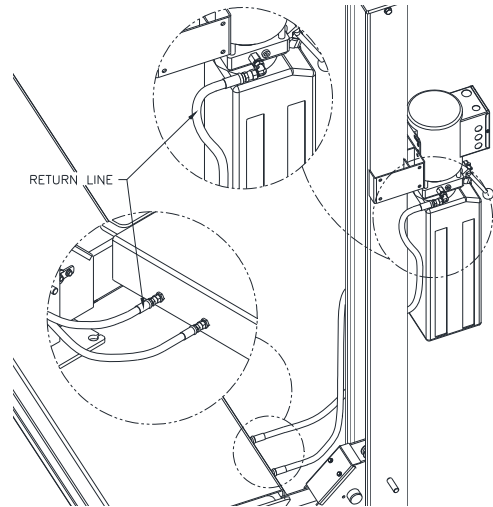

Fig 19 – Return Line, Side
- 35) Remove the 3/8-18 NPT plug on the side of the power unit and attach the 90-degree elbow, **Fig 19**.